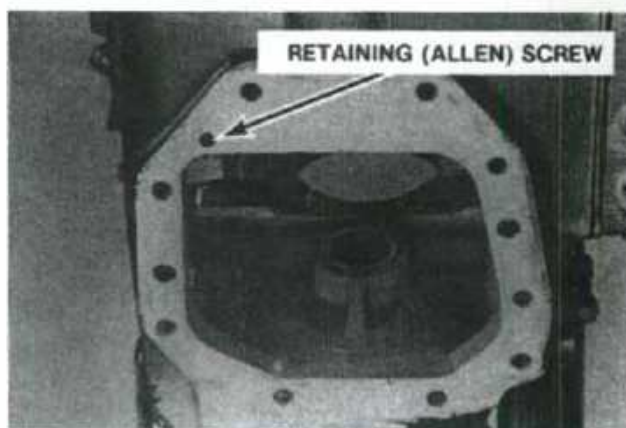
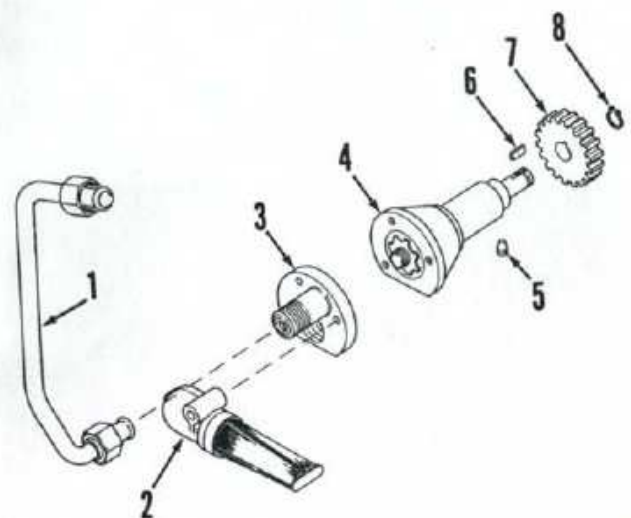

Fig. 129—Remove transfer pump retaining screw through hole in bottom of rear frame.
Fig. 130—Partially disassembled transfer pump and relative components.
remove lubrication tube (1—Fig. 130). Remove snap ring (8) and drive gear (7). Remove Allen set screw (5) through hole in bottom of rear main frame shown in Fig. 129. Remove pump from transmission housing. Unbolt and remove strainer (2—Fig. 130), then remove end cover (3). Clean and inspect all parts. Internal parts of pump (4) are not available separately.